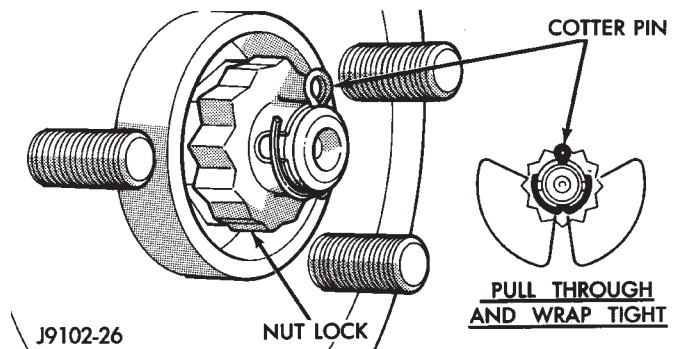

Fig. 5 Cotter Pin Installation
- (1) Insert the CV drive shaft stub into the hub bearing bore of the steering knuckle.
- (2) Attach the inner joint flange to the axle shaft flange. Tighten the bolts to 90 N·m (65 ft. lbs.) torque.
- (3) Clean hub bearing bore, axle driveshaft splines, and hub bearing mating surface of all foreign materials. Apply light coating of grease to all mating surfaces.
- (4) Install the hub bearing to the axle driveshaft and the steering knuckle.
- (5) Install the bolts to hold the hub bearing to the steering knuckle. Tighten bolts to 166 N·m (123 ft. lbs.).
- (6) Clean all foreign material from the stub shaft threads. Install the hub nut and washer.
(7) Install the ABS wheel speed sensor, if equipped. Refer to Group 5, Brakes, for proper procedures.
(8) Install the brake caliper and rotor. Refer to Group 5, Brakes, for proper procedures.
(9) Apply the brakes and tighten hub nut to 244 N·m (180 ft. lbs.) torque.
(10) Install the spring washer, nut lock and cotter pin on the stub shaft (Fig. 5).